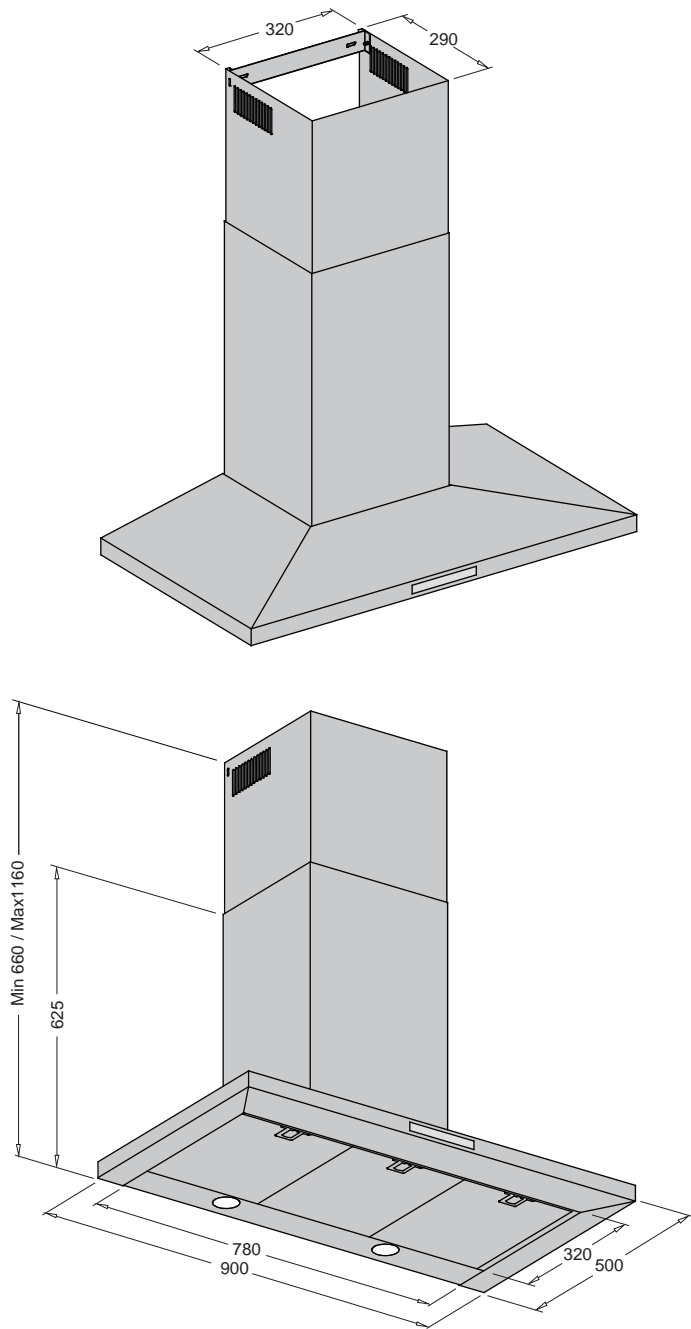

Fig. 4
1. Using a spirit level mark a vertical centre line on the wall where the hood is to be positioned, and a horizontal line at the hood base position. (See Figure 4 for relevant model)